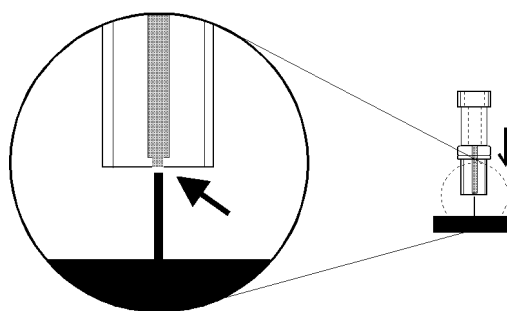

Fig. 8. Pushing the cotton wool frit out.
1. Use a drill of ± 1 mm (0.039 inch) to push out the frit from the outside (Fig. 8). Be careful not to damage the frit constriction (first arrow).
4. Put the working electrode with the face down on the disc and polish the electrode with a 'figure 8' motion for about one minute. Apply only gentle pressure with one finger.